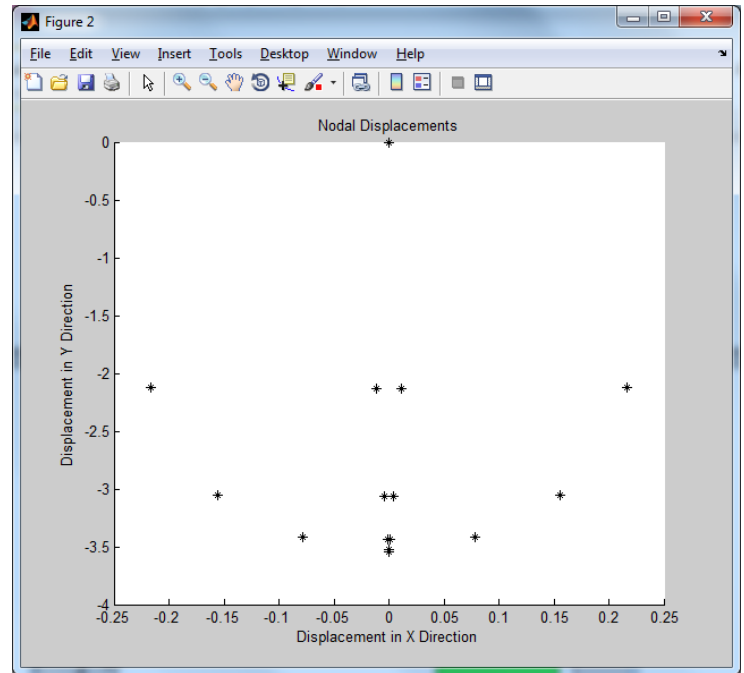

Figure 4
- b) A plot as in Figure 4 that contains a scatter plot of the x and y displacements of each node. This plot must be formatted with the colors, titles, and axes labels as shown in the example output.